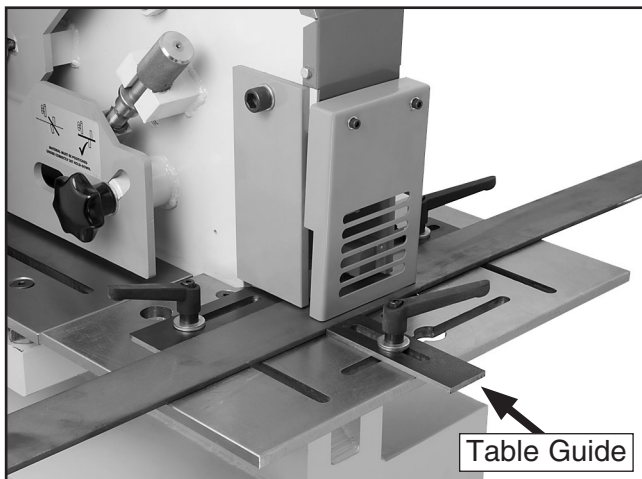

Figure 24. Typical workpiece positioning for the notching station.
3. Position the workpiece on the table and under the tooling, then use the table guides and other devices to support the workpiece (see **Figure 24**).